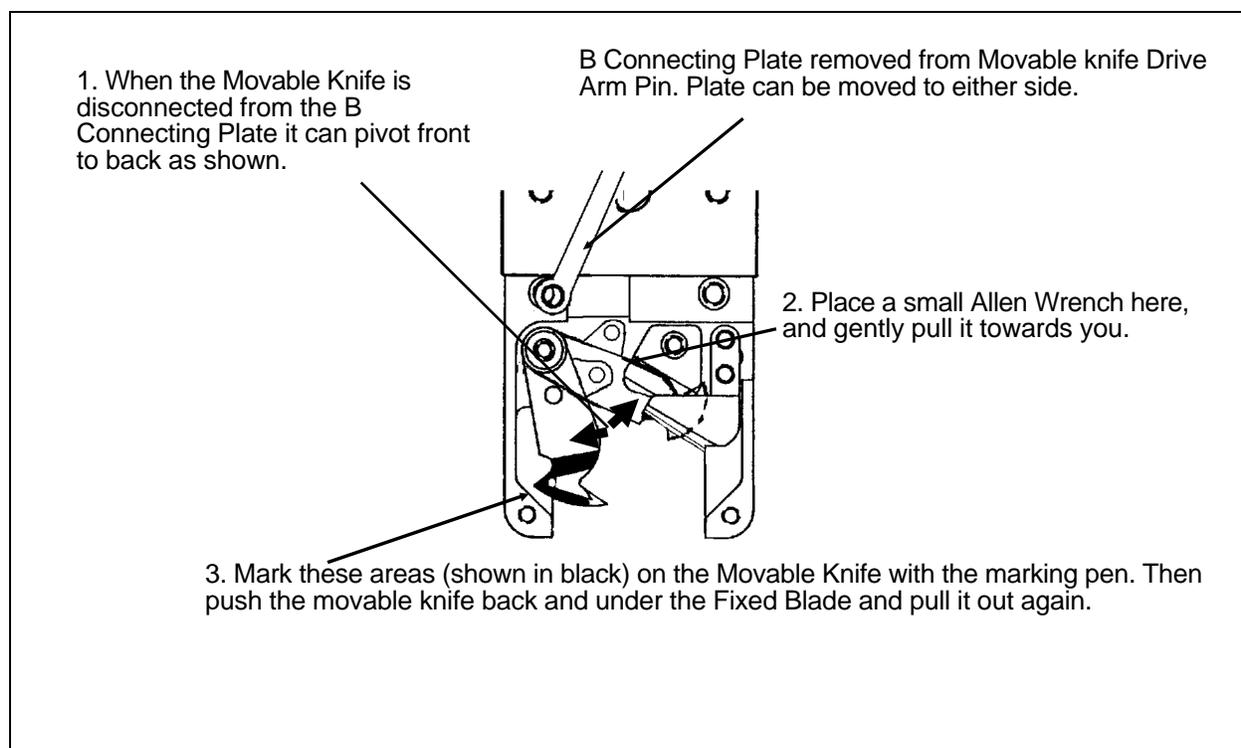

Fig. 4-6 Marking The Movable Knife
- 3 . With the Movable Knife free of the connecting plate, pull the knife towards the front of the Needle Plate Bracket with a small allen wrench hooked behind the Movable Knife. See Fig. 4-6.
- 4 . With the Black Marking Pen mark in the area of the movable knife, shown in Fig. 4-6. Then push the movable knife back to the rear of the Needle Plate Bracket with your thumb or forefinger until it passes UNDER the Fixed Blade. It should take a little force to push the Movable Knife under the Fixed Blade, be careful not to press down on the knife, but use a steady horizontal movement to push the knife.